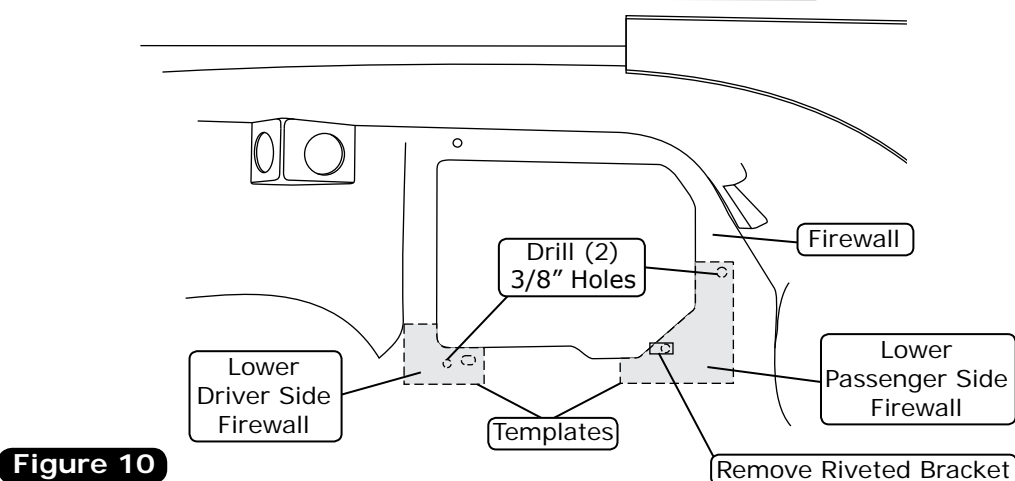

Figure 10
1. Cut out the templates provided on Page 30. Working in the passenger compartment, place the templates on the firewall as shown in Figure 10, below.
2. Once templates are aligned correctly and taped into place, mark the mounting hole locations on the firewall. Once the holes are marked in the correct location, drill (2)  $\frac{3}{8}$ " holes in the firewall for the firewall cover (See Figure 10, below).